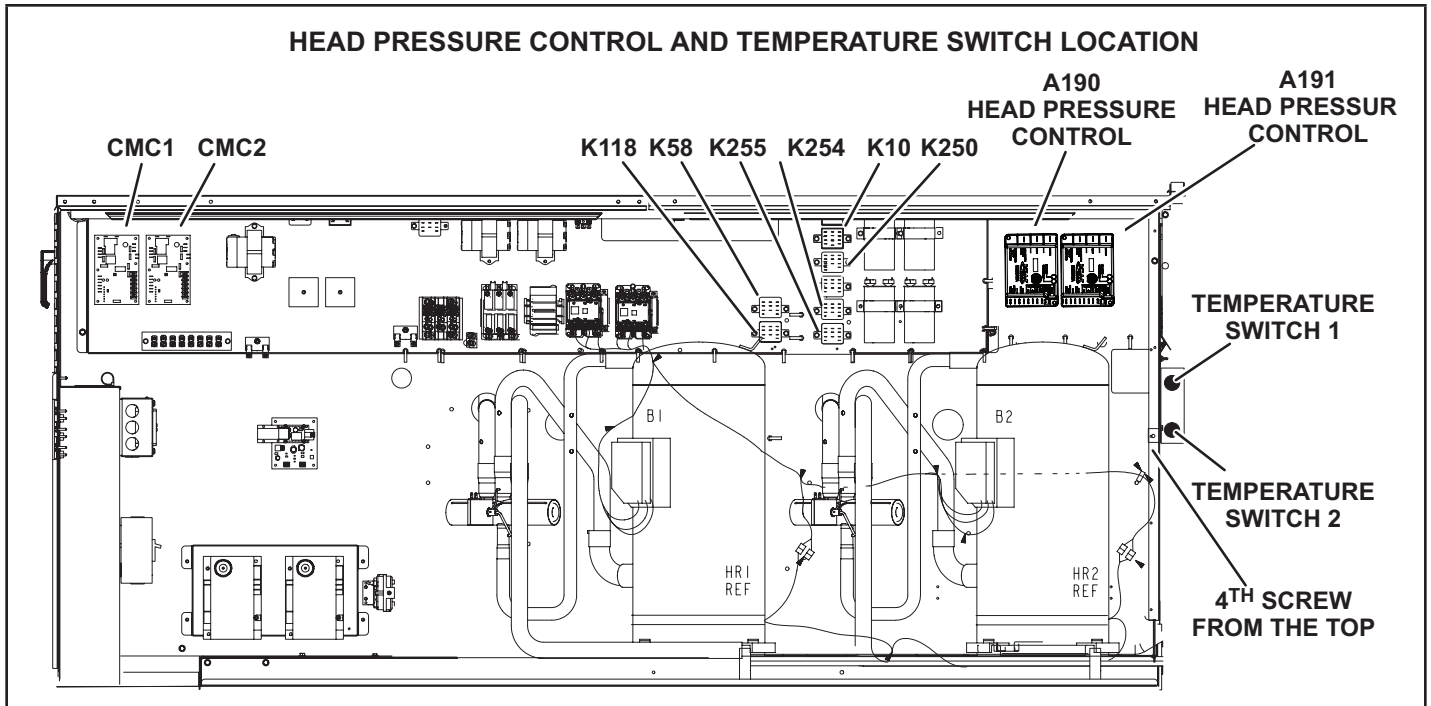

FIGURE 1
- 2 - Install head pressure controls (A190 & A191) in the control section as shown in FIGURE 1. Secure with screws (provided).
- 4 - Install the temperature switch mounting bracket onto the mullion. Align the bracket with the 4th screw from the top of the unit; secure with provided screw. See FIGURE 1.